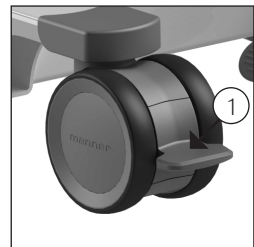

Figure 1 Activate wheel lock
- The Lotus / Lotus compact / Lotus XL can be locked by pressing down on the brake lever (1) on the wheel (see figure 1).